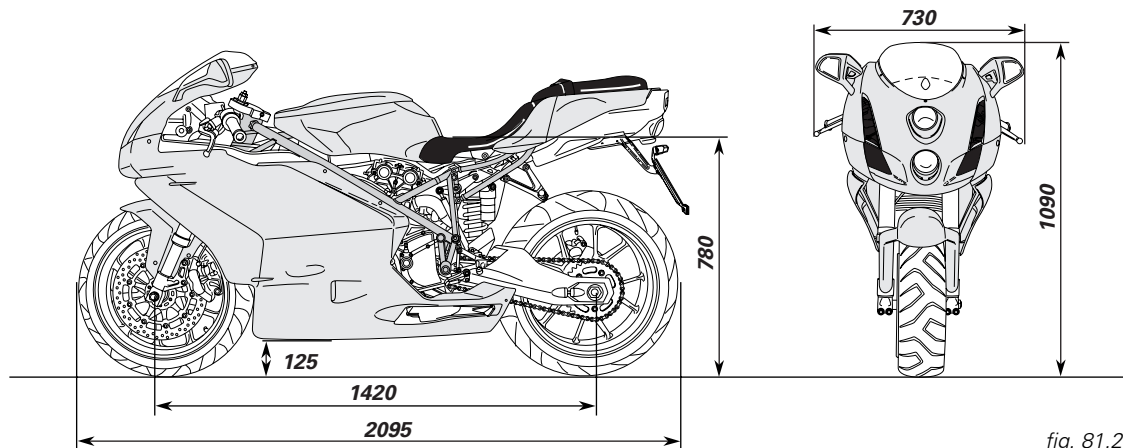

fig. 81.2
**Dimensions (749Dark) (mm) (fig. 81.2)****Poids (749Dark)**